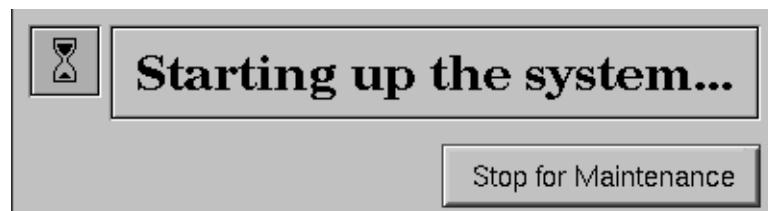

Figure 9-7 System Startup Notifier
2. When you see the System Startup *notifier* (Figure 9-7), click *Stop for Maintenance* or press **Esc**.